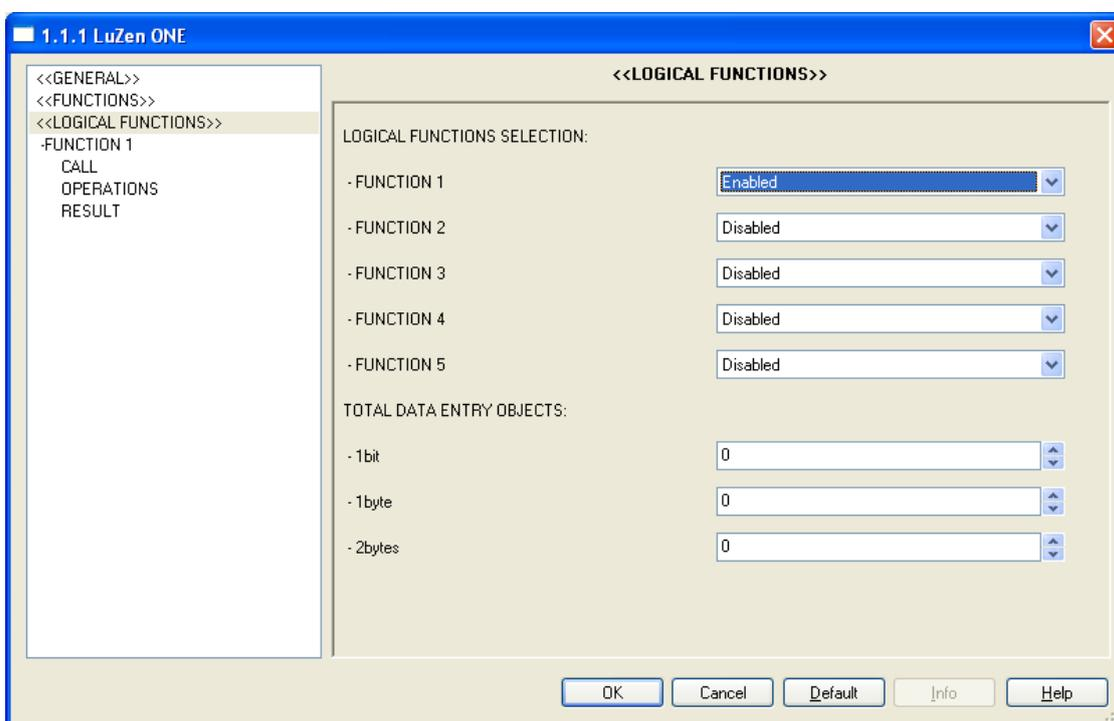

Figure 3.20. Logical functions
**Up to 5 different logical functions** independent of each other can be enabled, and will be able to carry out up to 4 operations each. To use any of them, it is necessary to enable them in the screen shown in figure 3.20, which appears after the option “Yes” has been selected for the “Logical functions” parameter, in the General window of LUZEN ONE.